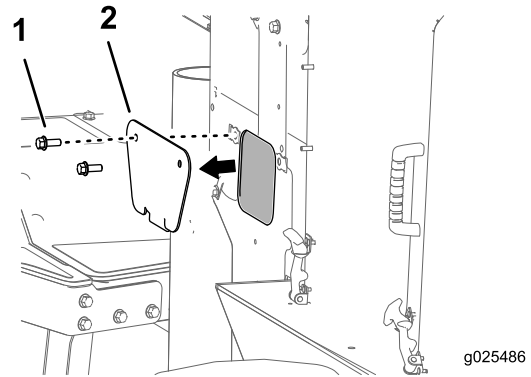

Figure 19
4. Remove the panel from the machine as shown in Figure 19.